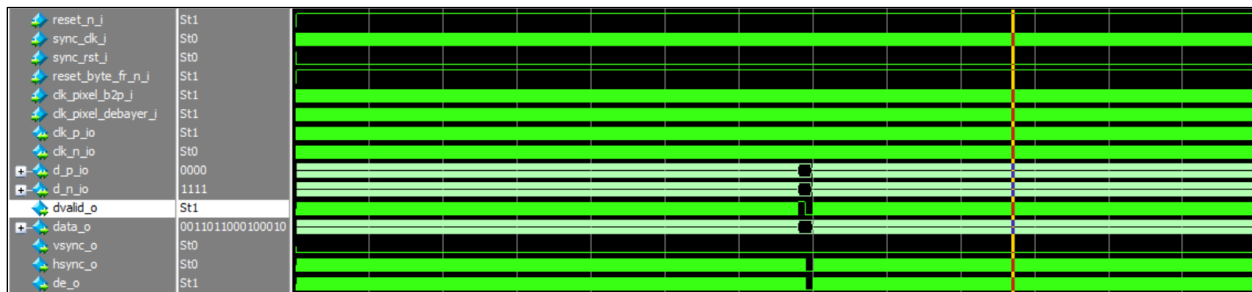

Figure 4.13. Sample Simulation Waveform
- The simulation waveform is opened as shown in Figure 4.13.